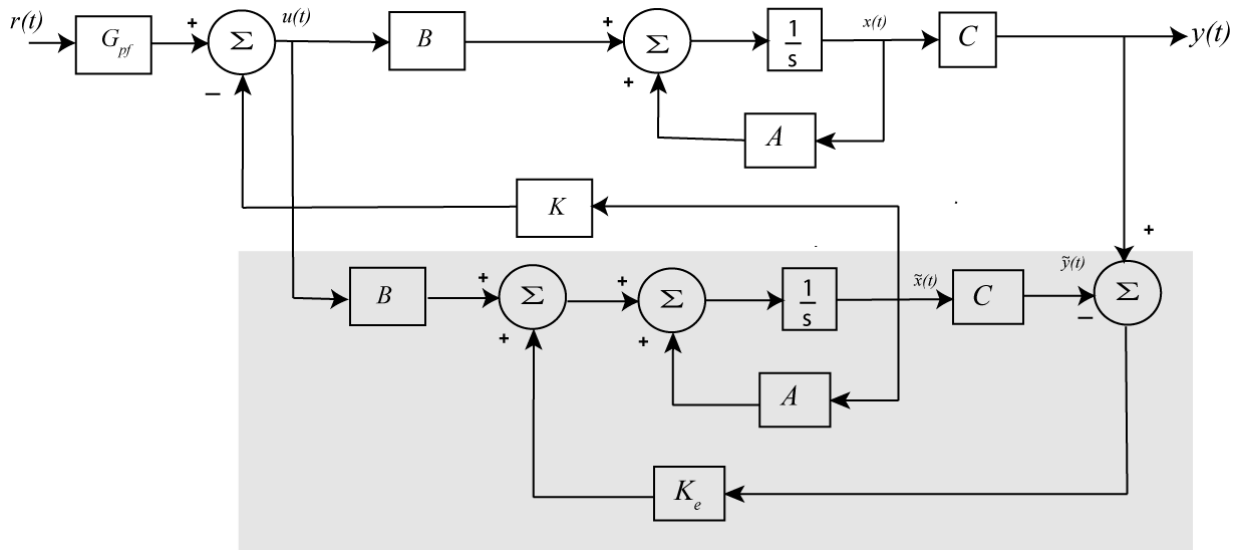
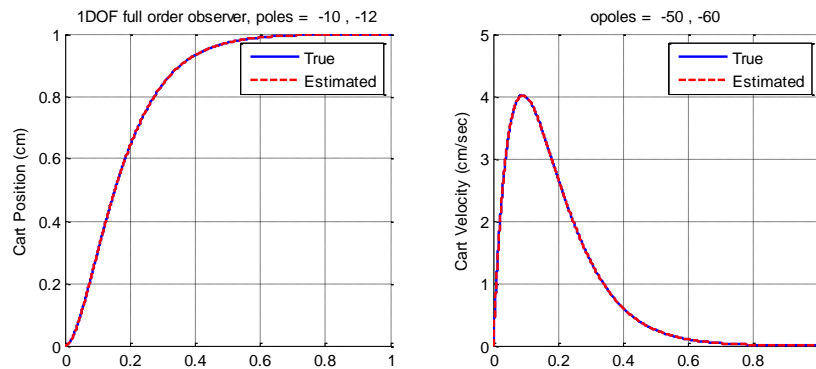

Figure 8: Full order observer state variable feedback structure
Figure 9: Results for full order observer for 1DOF system
1. In this problem we will incorporate a full order observer for a one degree of freedom system and run some test cases to verify your code is working. The full order observer state variable feedback control scheme is shown in Figure 8.
- observer state variable feedback in Figure 8. This modification includes breaking the feedback from the output to the summer and inserting the observer. It also involves adding three summers, the multiplier for the A, B, and C matrices for the observer, an integrator and the gain, K_e . Add To Workspace blocks for the variables m_x1_hat and $m_x1_dot_hat$.
- Copy the MATLAB file, **Basic_1dof_State_Variable_Model_driver.m** to the Lab 10 folder and rename it, **sv1_observer_driver.m**. Modify **sv1_observer_driver.m** to implement the full order observer state variable feedback in Figure 8. Set the correct saturation level for the Model 210 and load the **state_model_1dof_rect** file. The prefilter gain should also be set to $G_{pf} = -1/(C*inv(A-B*K)*B);$. Then find the observer feedback gains by using $K_e = place(A',C',10*p)';$. Set all of the initial conditions for the state variable model and observer to zero. Set the simulation to run the **sv1_observer.mdl** Simulink model. Finally, modify **sv1_observer_driver.m** to plot each of the true and estimated states on the same graph. See Figure 9 for an example of doing this.
- Now verify that you have built the full order observer state feedback correctly by setting the input to 1 cm, the final time to 1 second, the state feedback poles to $p = [-10 -12]$ and the observer to respond five times faster. You should get a graph similar to Figure 9.